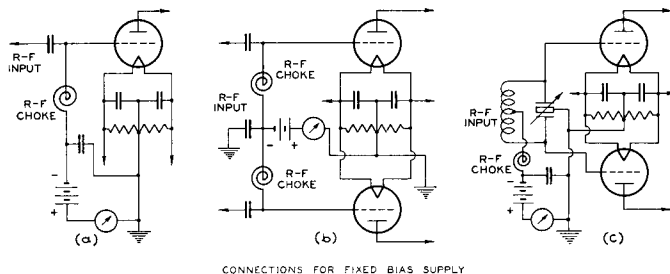

Fig. 1
Fig. 1 illustrates the use of fixed bias in several types of r-f amplifier circuits. The voltage source may be a battery, or a power pack designed to have good regulation. An r-f choke and by-pass condenser serve to exclude the r-f grid voltage from the bias-voltage supply. Where a tuned grid circuit is employed, the r-f choke is often not essential and may sometimes even be detrimental to the operation of the circuit. An r-f choke of the wrong value in the grid circuit may cause trouble from parasitic oscillations, especially where a similar r-f choke is used in the plate circuit. A bias voltage from a fixed source serves to protect the tube against accidental removal of the r-f grid excitation, provided the bias is large enough to reduce the d-c plate current to cut-off, or to a low value.
The connections for a grid-leak-biased stage are the same as those shown in the circuits of Fig. 1, except that a suitable resistor is substituted for the bias battery in each case. The value of the grid leak is determined by Ohm's law, $R = E/I$, where R is in ohms, E is the negative grid bias (in volts) recommended for the particular class of service contemplated, and I is the value of d-c grid current (in amperes) shown under "typical operation" in the tabulated data. For example, the recommended grid bias for an RCA-812 at 1500 plate volts in class C telegraph service is -175 volts; the d-c grid current is 25 ma., or 0.025 ampere. The correct grid leak will have a resistance $R = 175/0.025$, or 7000 ohms. The power (P) dissipated by this resistor is equal to EI , or $P = (175)(0.025) = 4.38$ watts. A 5-watt resistor would be operated near its maximum rating and might become quite hot. A 10-watt resistor would, therefore, be a logical choice. If two tubes are used in parallel or in push-pull, the d-c grid current of both tubes usually flows through a common grid leak. In this case, the resistance of the grid leak will be one-half that for a single tube.